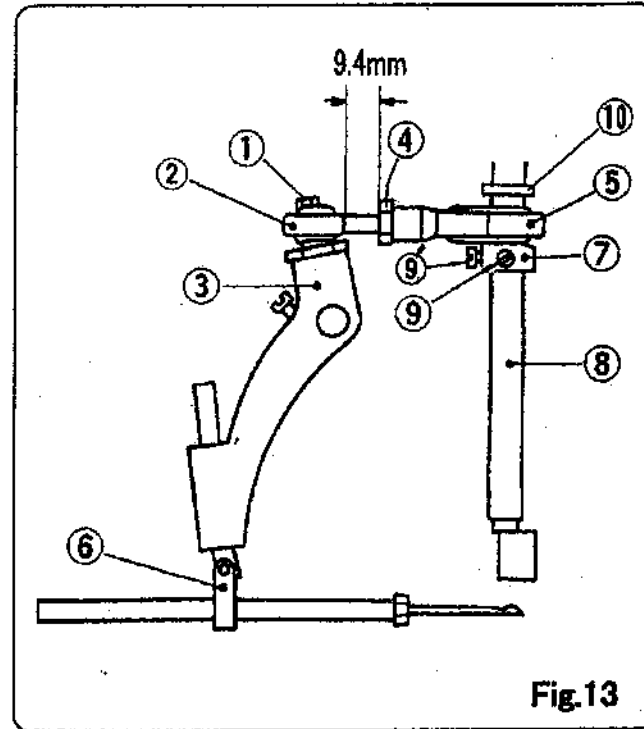
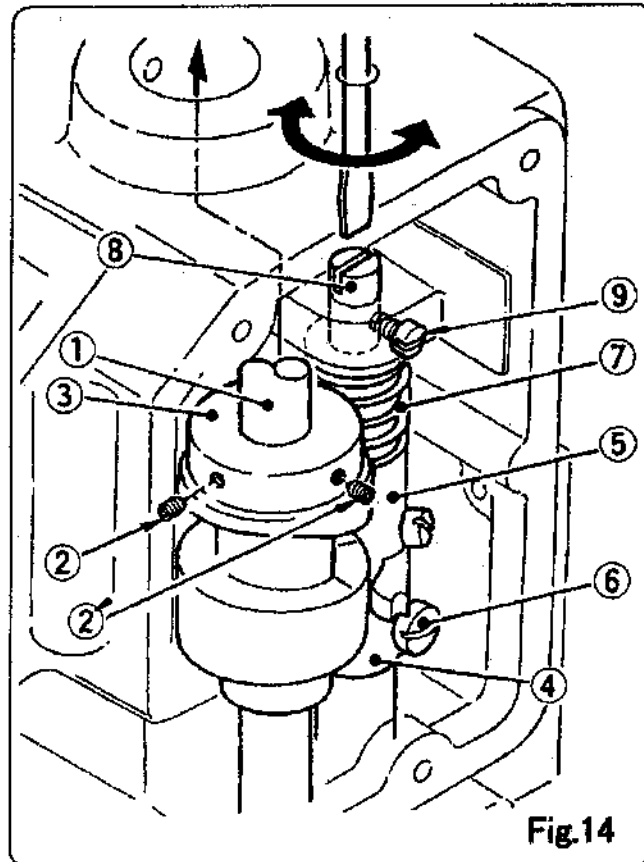

Fig.13
Fig.14
For replacement or adjustment of Ball Rod, refer to Fig.13. Take out Screw ① and disconnect Rod End ② from Needle Bar Lever ③. After loosening the Nut ④, adjust the clearance between Connecting Rod ⑤ and Rod End ②, so that Needle Bar moves in the center of the clearance between the upper and lower Presser Bar Bushings. (Needle Bar stroke is 37 mm).
The position of Needle is adjusted so that the distance between the point of Needle (at its highest position) and Throat Plate is 13 mm, after loosening screw on Needle Bar Connection Assembly ⑥ in Fig.13.
- ① Screw 11/64S40084
- ② Rod End 6A04001
- ③ Needle Bar Lever 242051A
- ④ Nut 1N8
- ⑤ Connecting Rod Assembly 242011A
- ⑥ Needle Bar Connection Assembly 242101A
- ⑦ Eccentric Cam (part of Connecting Rod Assembly) 242011
- ⑧ Main Shaft 241102
- ⑨ ⑨' Screw 11/64S40001
- ⑩ Spacer 241161
Adjust Looper Drive Cam ③ When necessary as follows: (Refer to Fig.14.).
- a) Apply the Screws ② and ②' on the taper of Main Shaft ①.
- b) Adjust Arm (B) ④, so that Looper Drive Cam ③ and Arm (A) ⑤ move smoothly. After adjusting, fix the Screw ⑥ tightly.
- c) The clearance between Looper Drive Cam ③ and Arm ⑤ is effected by Spring ⑦. Loosen Screw ⑧ and turn Spring Supporter ⑧ to adjust the pressure of Spring ⑦. After adjusting, tighten the Screw ⑨ to fasten Spring Supporter ⑧.
- ① Main Shaft 241102
- ② ②' Screw 15/64S28524
- ③ Looper Drive Cam 243012
- ④ Looper Rocker Shaft Arm (B) 243081
- ⑤ Looper Rocker Shaft Arm (A) 243071
- ⑥ Screw for Looper Rocker Shaft Arm (B) 11/64S40009
- ⑦ Spring 243131